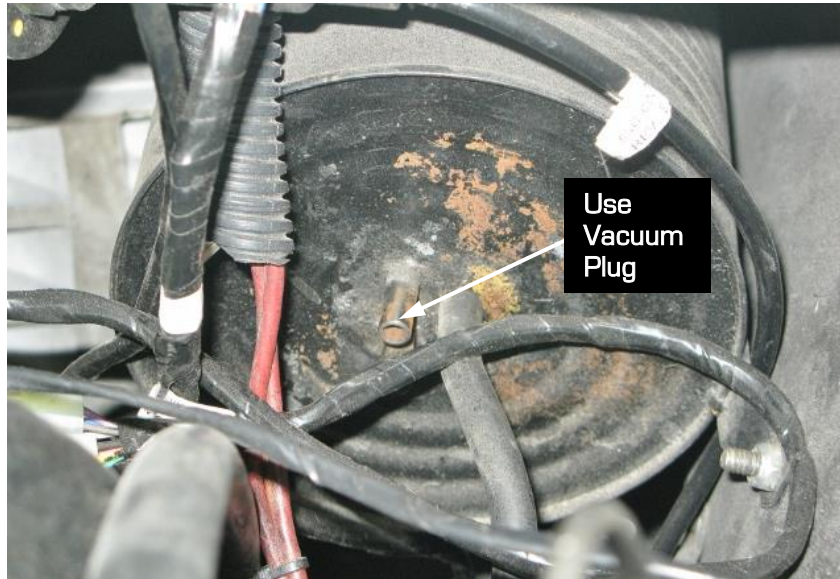

Figure 6 – Replace Hoses on Vacuum Tank with Plugs
6. Remove the vacuum actuator system from the vehicle along with any tanks, hoses, etc. as they will no longer be needed. **NOTE:** If you have a 1968-72 Corvette and are still using the stock wiper system, you will still need to keep the wiper door vacuum hoses and tank to operate the wiper door. You will need to use vacuum plugs on the vacuum tank where you have removed the hoses for the headlight actuators (Figure 6 on the next page).